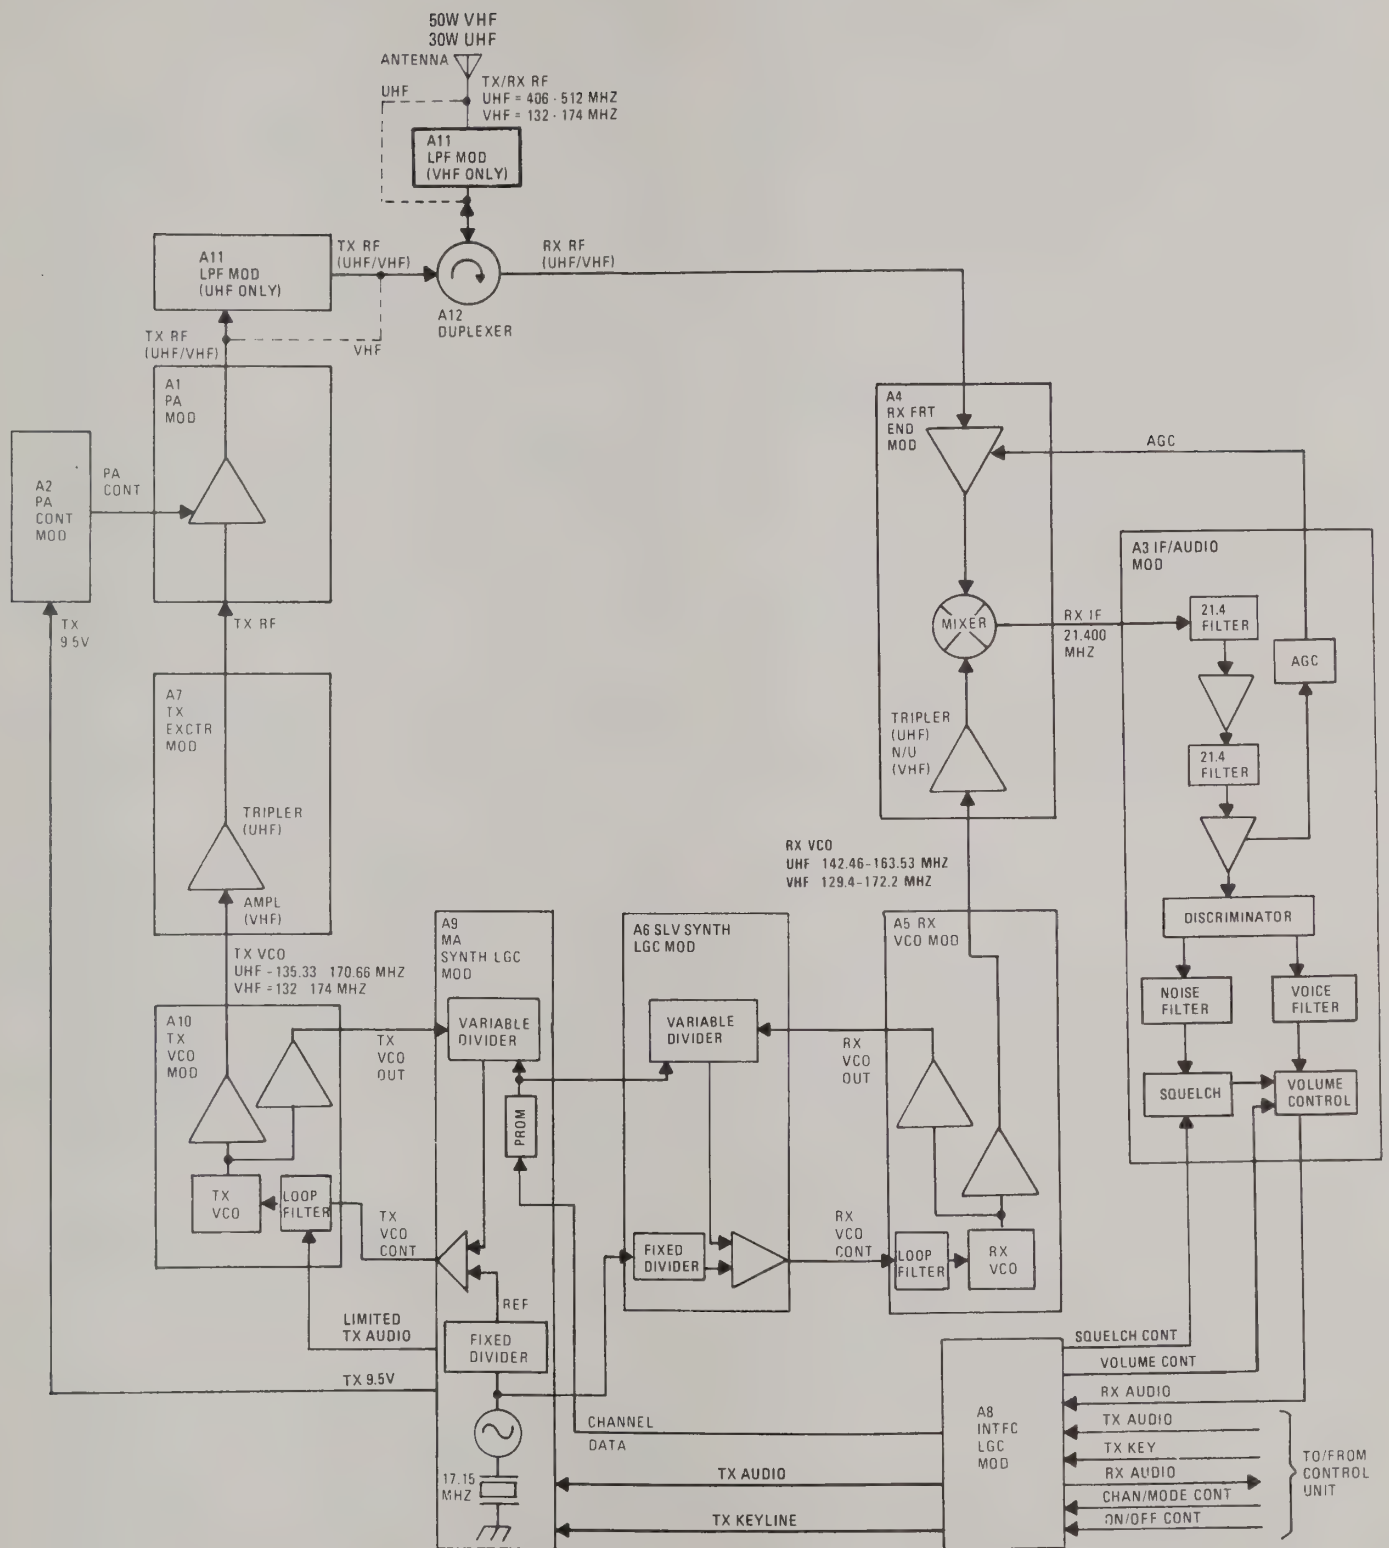

Figure 1-3. Overall Simplified Signal Flow Diagram
2.01 The following description is based upon figure 1-3, the Simplified Transceiver Signal Flow Diagram. This diagram covers both UHF and VHF Transceivers.